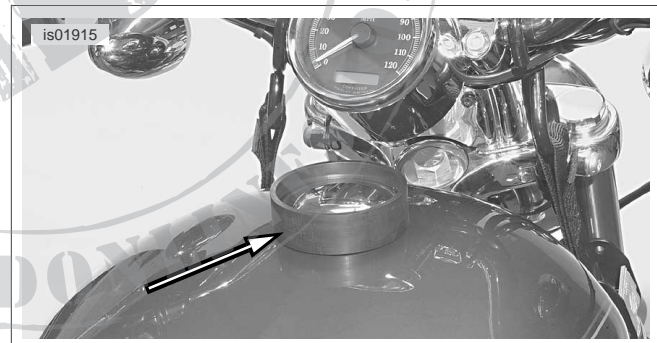

Figure 4. Trim Panel Positioning Tool HD-47114
11. See Figure 4. Place Console Alignment Ring HD-47114 over the fuel filler cap